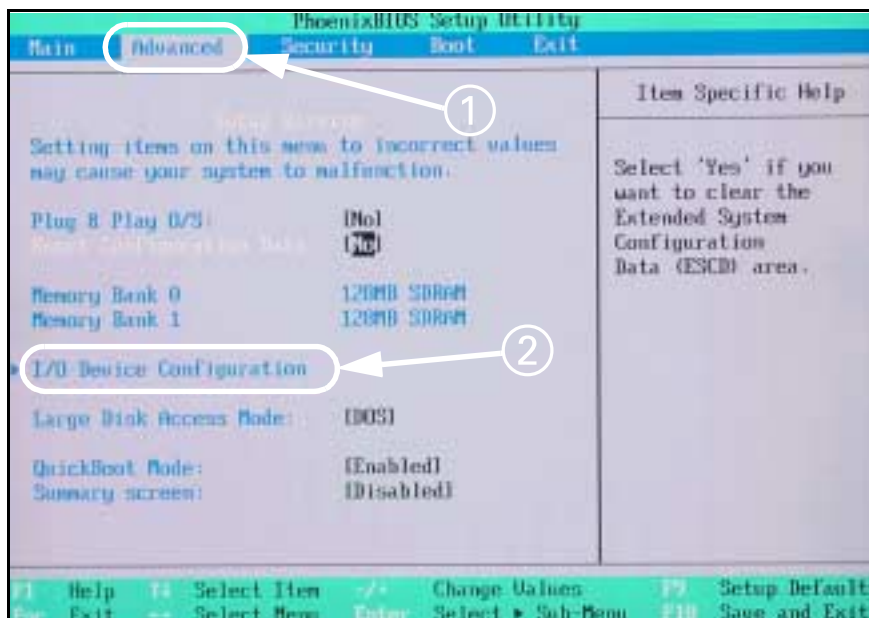

Figure 2-4 Advanced settings
12. Use left/right arrow keys to select “Advanced” tab (① in Figure 2-4).
13. Verify correct “Advanced” settings as shown in Figure 2-4.
14. Use up/down arrow keys to select I/O Configuration (② in Figure 2-4), and then press *<Enter>* key.